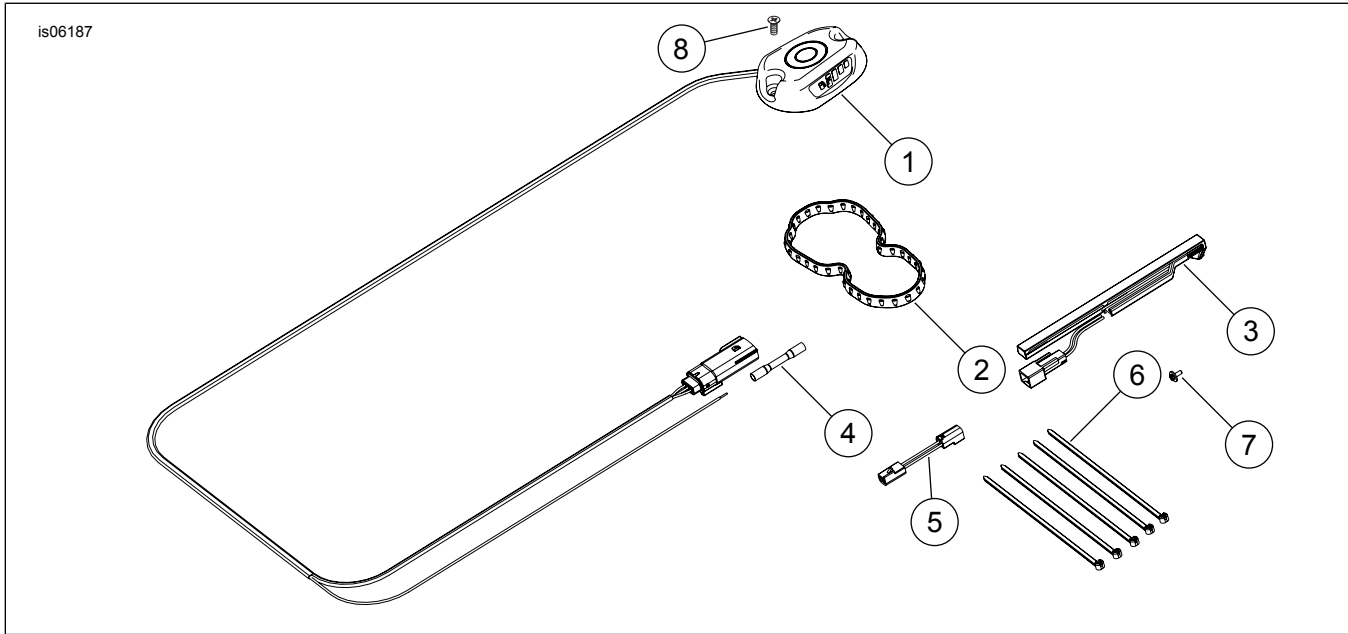

Figure 4. Service Parts for Sportster Fuel Gauge
See Figure 4 and Table 1.
- a. Install fuel sensor into fuel pump module oriented as shown and locating base into mounting hole (4) of fuel pump.
- d. Secure fuel level sensor to fuel pump with screw (3). Tighten screw enough to seat fuel sensor against mounting tab.
- e. Route fuel level sensor wiring under fuel hose and connect fuel level sensor to low fuel switch connector on fuel pump module. If necessary use jumper harness (Figure 4, item 5).
5. See Figure 4. Route fuel gauge harness along handlebar following turn signal wiring, down to main harness. Then route it inside coil bracket and main harness caddy, back along backbone toward seat pan area.
8. Secure fuel gauge harness and orange wire to main harness with cable straps (6). Coil and secure excess harness and wire length.